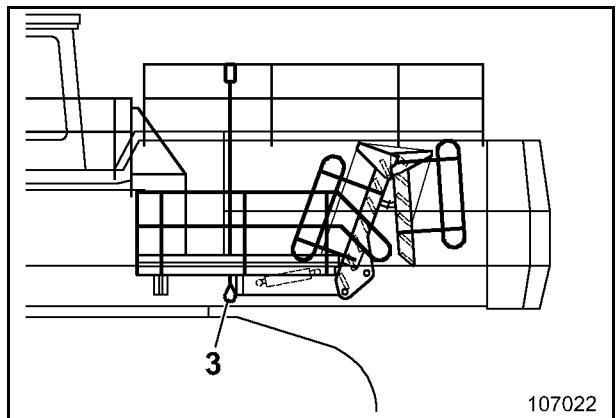

Fig. 2-12:
- ➡ Pull down rope (3, Fig. 2-12:).